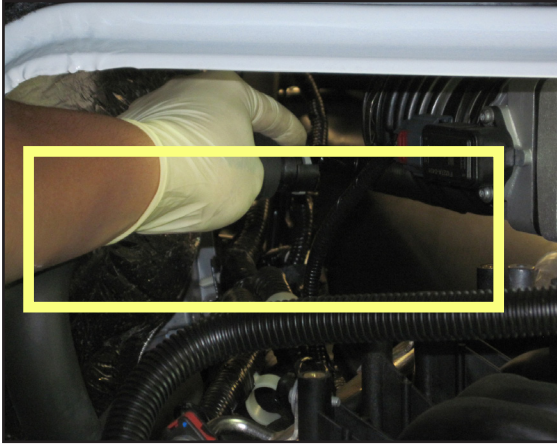

Figure 10. Remove Batting from Floor Mat
7. Cut off the batting in a swath as wide as the cover of the yaw sensor and the entire length, front to back, of the mat (see Figure 10). This will allow the routing of the 1" hose under the Blower for proper cooling of the yaw sensor.